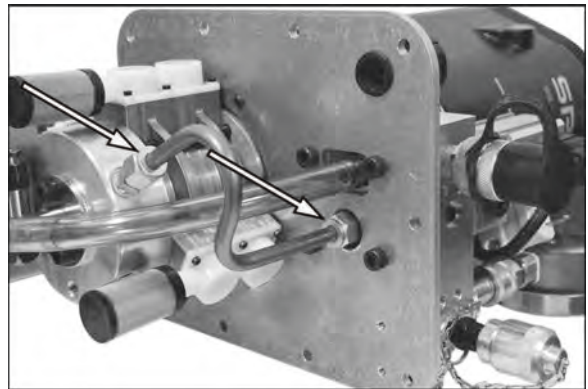

Figure 61.
6. See Figure 61. Loosen the two compression fittings and remove the high pressure tube.